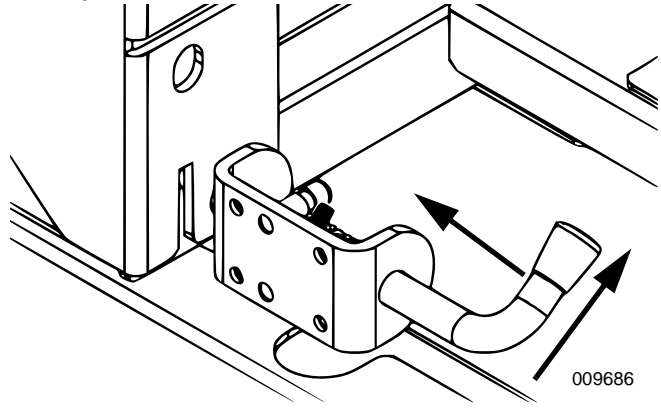

Figure 3-8. Engaging Safety Pins
5. See **Figure 3-8**. Engage each safety pin by first rotating and then pushing the pin into the locked position.